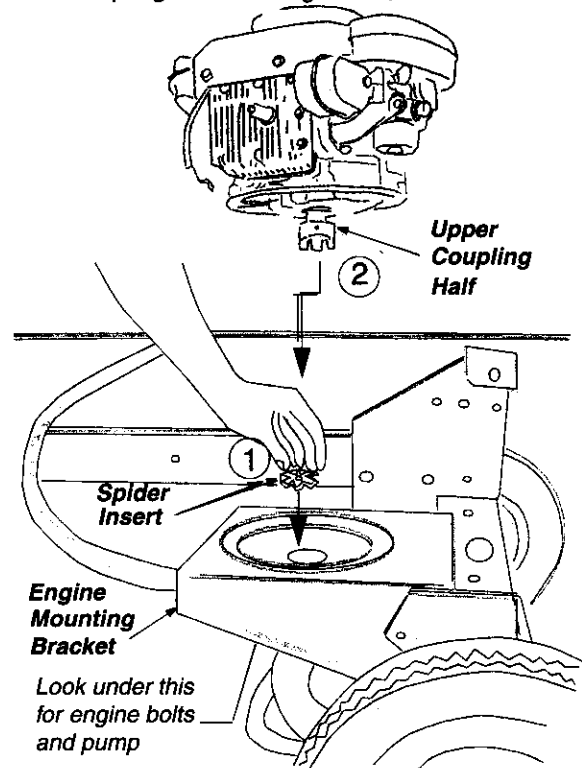

Figure 16
- Place a new "spider" insert into the pump coupling half. See Figure 16,1. Make sure the key is on the pump shaft. The key way in the lower coupling half has to fit over the key on the pump shaft.
pump and engine coupling halves. There must be space between end of the engine and the coupling half. See Figure 16,2.